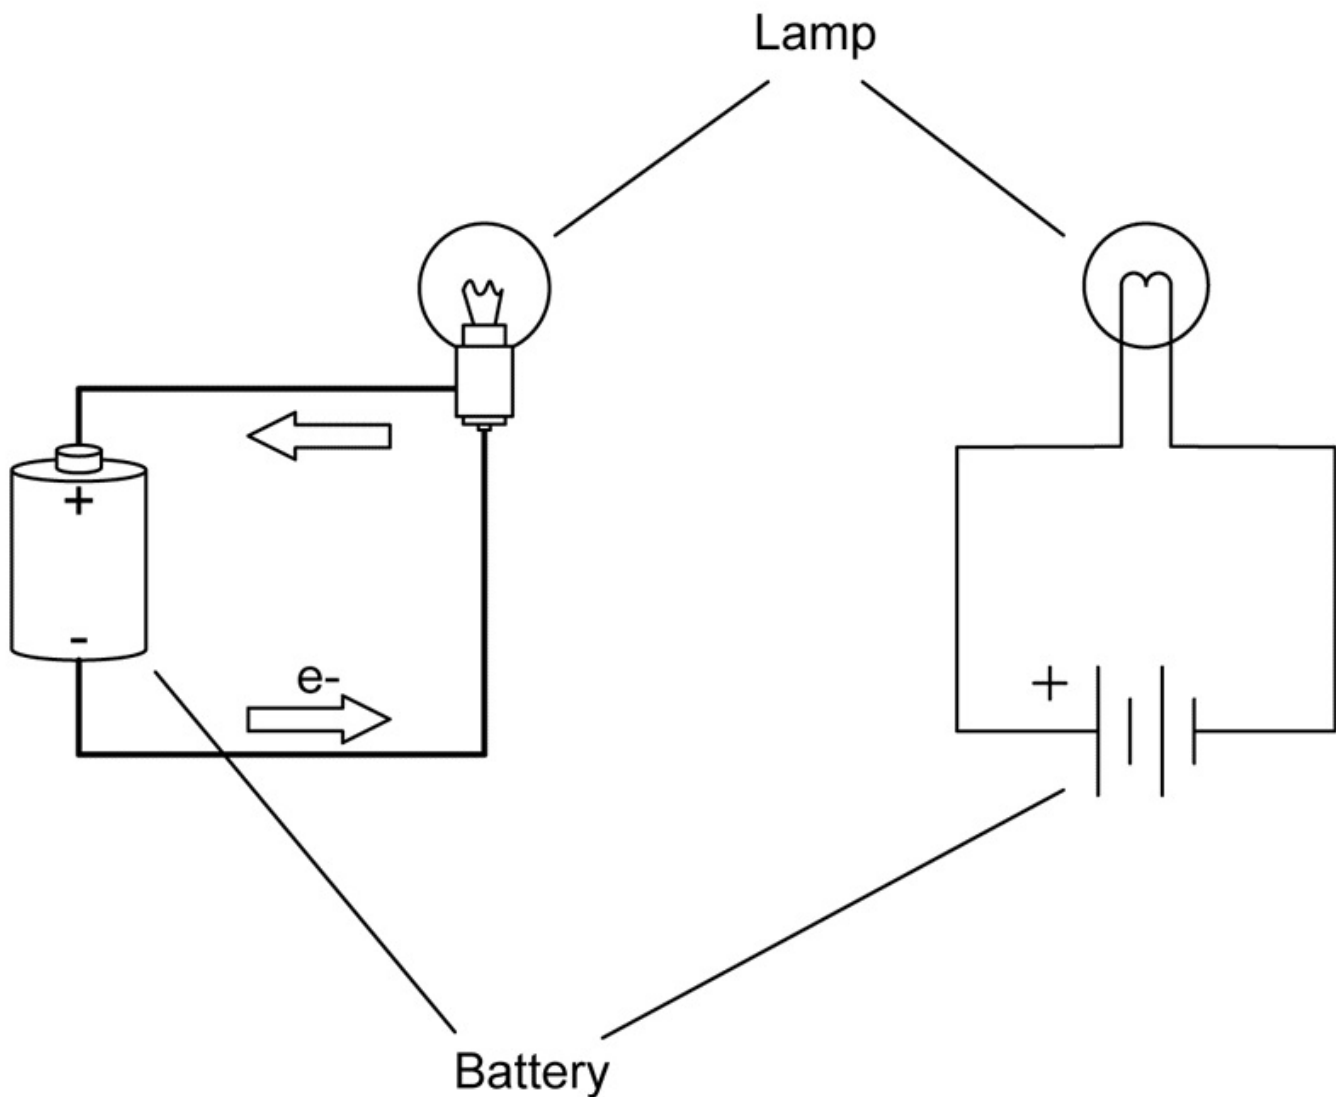

Figure 1-4. A simple DC circuit
Electric current flow (a physical phenomenon) is characterized by four fundamental quantities: voltage, current, resistance, and power. We'll use the simple circuit shown in Figure 1-4 as our baseline for the following discussion. Notice that the circuit is shown both in picture and schematic form. For more about schematic symbols, refer to Appendix B.
Current that flows in only one direction, as in Figure 1-4, is called *direct current* (DC). A common battery produces DC, as does the DC power supply in a typical computer system. Current that changes direction repeatedly is called *alternating current* (AC). AC is what comes out of a household wall socket (in the US, for example). It is also the type of current that drives the loudspeakers in a stereo system. The rate at which the current changes direction is called the *frequency* and is measured in cycles per second in units of Hertz (abbreviated Hz). So, a 60 Hz signal is made up of a current flow changing direction 60 times per second. When AC is used to drive a loudspeaker, a signal with a frequency of 440 Hz will be A above middle C to our ears.
By convention, DC is described as flowing from positive to ground (negative), whereas in reality, electrons flow from the negative terminal to the positive terminal of the power source. In Figure 1-4, the arrows show the electron flow. Basically, the discrepancy stems from an erroneous assumption made by Benjamin Franklin, who thought that electrons had a positive charge and flowed from positive to negative terminals. He guessed wrong, but we ended up with a convention that was already well ingrained by the time physicists figured out what was really going on. Hence we have conventional current flow and electron current flow. Although you should be aware of this discrepancy, from this point onward, we'll use conventional current flow, since that is what most of the electronics industry uses.
This simple equation is fundamental to electronics, and indeed it is often the only equation that you really need to get things going. In **Figure 1-4**, the circuit has only two components: a battery and a lamp. The lamp comprises what is called the *load* in the circuit, and it exhibits a resistance to current flow. Incandescent lamps have a resistance that varies according to temperature, but for our purposes, we'll assume that the lamp has a resistance of 2 ohms when it is glowing brightly.
In the simple circuit shown in Figure 1-4, the flow of electrons through the filament in the lamp causes it to heat up to the point where it glows brightly (between 1,600 to 2,800 degrees C or so). The filament in the lamp gets hot because it has resistance, so current flows less easily through the filament than it does through the wires in the circuit.